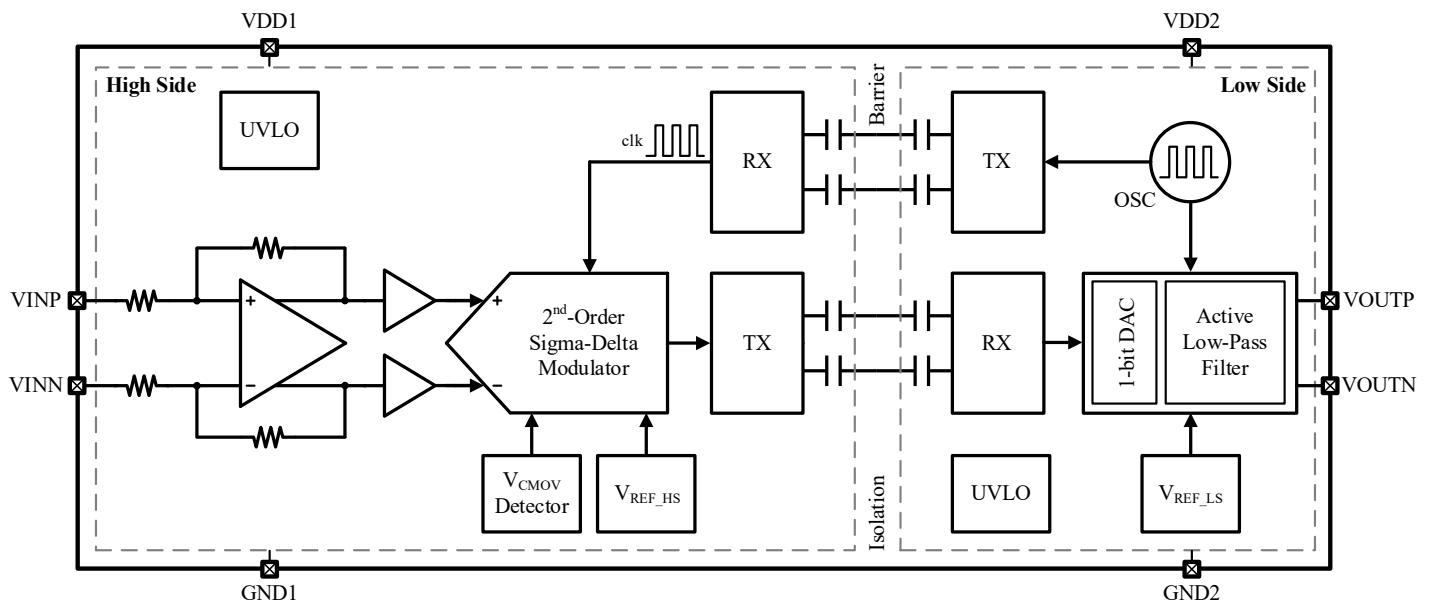

Figure 9-1 Functional Block Diagram of CA-IS1300x
The CA-IS1300x devices are high-precision isolated amplifiers designed for shunt-resistor-based current sensing. The functional block diagram of this device is shown in Figure 9-1. At high side, the fully differential amplifier pre-amplifies the measuring voltage across a shunt resistor and then drives a 2nd-order Sigma-Delta ($\Sigma\Delta$) modulator. This modulator converts the analog signal to a digital bitstream. For transmission across the SiO₂-based isolation barrier, the digital stream is further modulated with a high-frequency carrier using a simple on-off keying (OOK) modulation scheme. The receiver (RX) recovers the modulated signal at low side. After processed by a 1-bit digital-to-analog converter (DAC), the digital bitstream is sent to an active low-pass filter to produce the analog output. For synchronization of the whole chip, the clock is generated at low side and sent back to high side ensuring that all clocks come from one source.